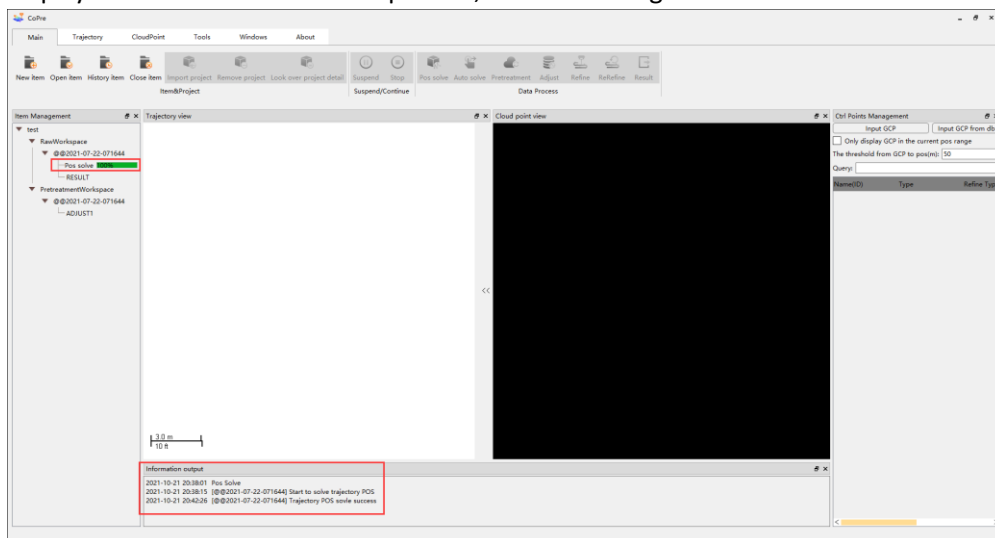

Figure 20
- After the POS is solved, the progress bar will be 100%, and relevant information will be displayed in the information output bar, as shown in figure 20